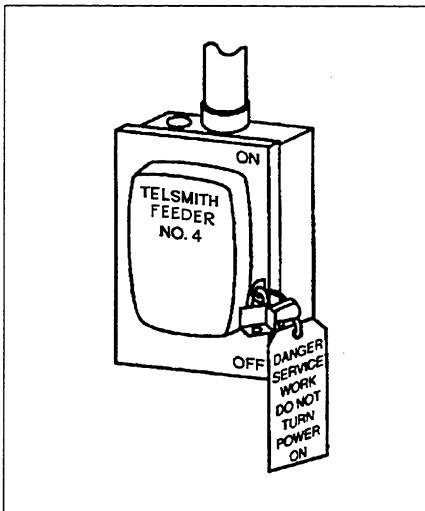

Figure 1-2. Tagged Controls
- Whenever troubleshooting or repairing the electrical system, work with the power tagged and locked out, if possible. See Figure 1-2.